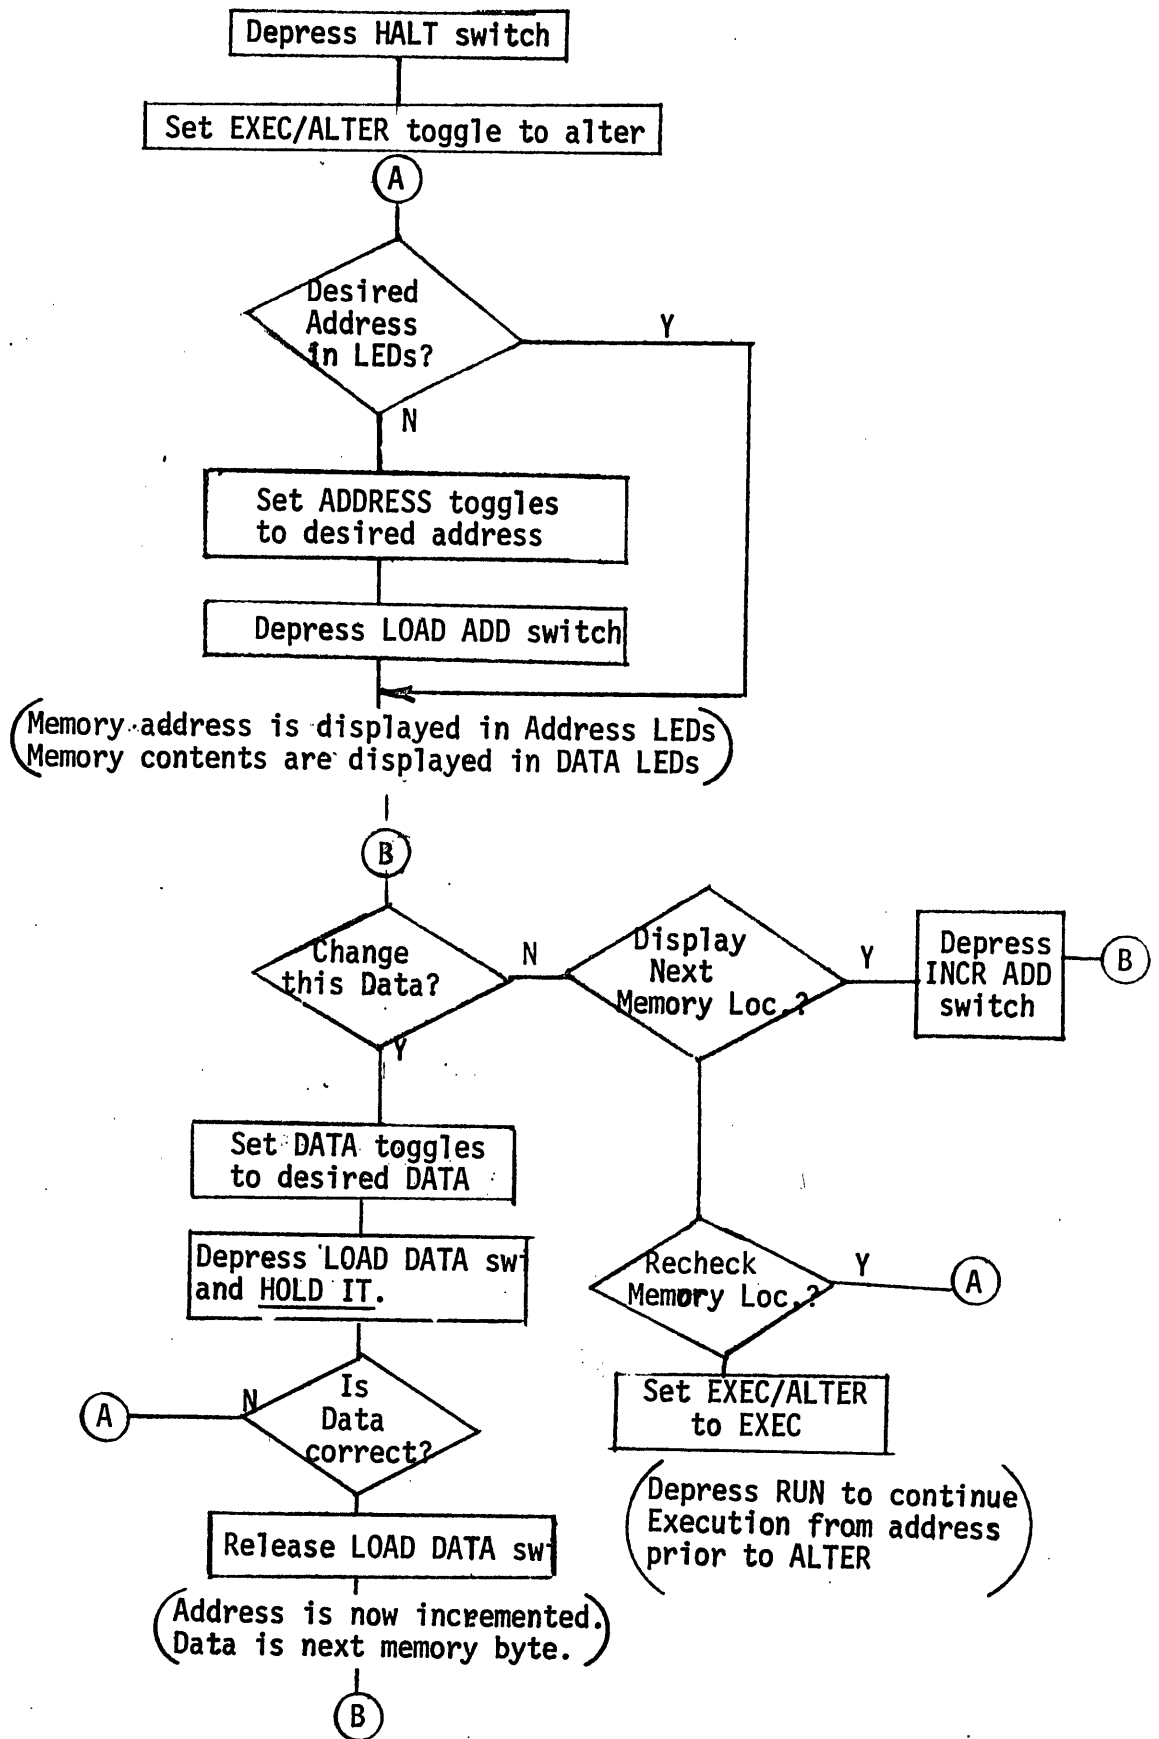

Figure 4
3.3 Display or Alter Memory from the Console: Figure 4 depicts how to display or alter memory locations from the console.
3.5 User Program Trace from Console: Program debugging from the console is a combination of patching instructions or data in memory and single stepping in order to trace instruction execution sequences through the user's program. Figure 4 shows how displaying and patching of memory is accomplished. It is important to log events in order to have a historical reference. Care must be used in using the console or else memory may be changed incorrectly causing wasted time and effort.
If you should want to check out a area of code that, for instance, begins at address H'087', the two bytes H'90', H'FF' should be substituted for the instruction at H'087' and for the next byte at H'088' (see "How to Load or Examine Memory Locations", Figure 4, for the procedure). The two bytes, 90 FF, are a branch instruction that branches to itself; once the program gets to this instruction, it will loop there.